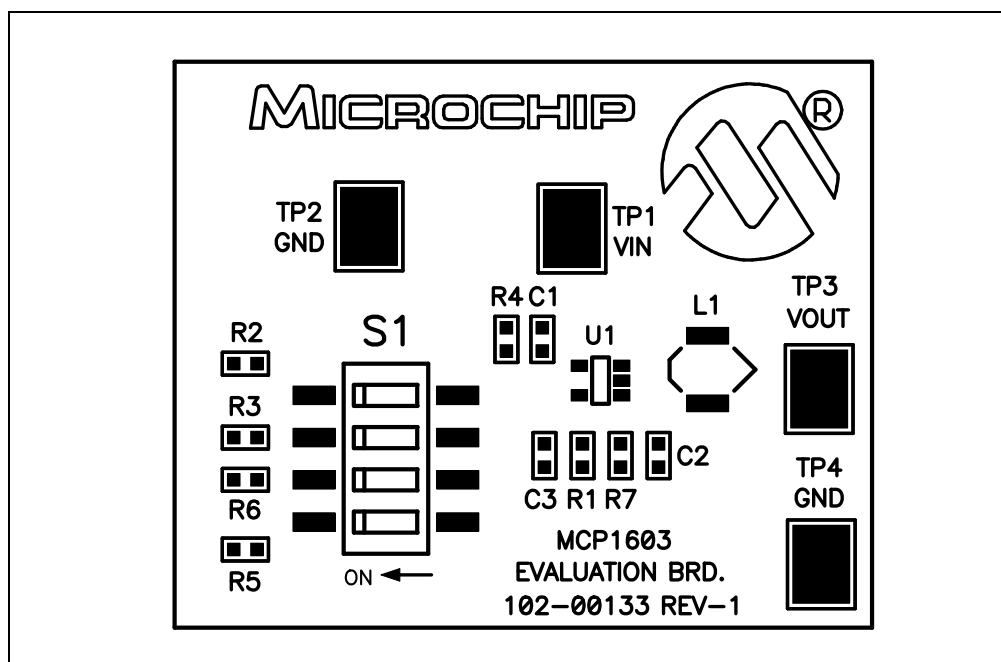

FIGURE 2-1: Setup Configuration Diagram.
2. Connect the negative or return side (-) of input source to TP2 (GND). Refer to Figure 2-1. The input voltage should be limited from 2.7V to 5.5V range.
2. Connect the negative side of the load (-) to TP4 (GND). Refer to Figure 2-1. The maximum load current should not exceed 500 mA.